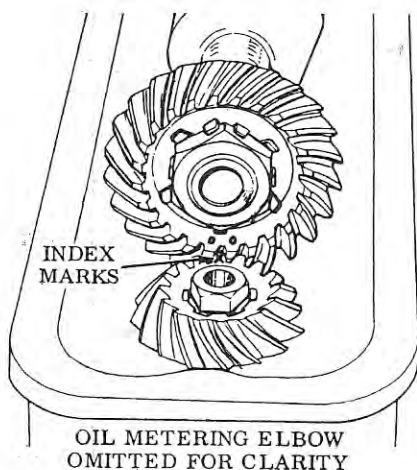

Fig. H12—To time the camshaft to the tower shaft, make sure the "X" mark on tower shaft gear is aligned between the two "O" marks on camshaft gear as shown.
The camshaft bearings are numbered from 1 to 5, starting with the lower bearing. To remove the camshaft, turn the flywheel until No. 1 (Lower) cylinder is at Top Center on the compression stroke and the camshaft timing marks are aligned as shown in Fig. H12. With timing marks aligned, loosen the bearing retaining screws evenly, one turn at a time, in the following order:
elbow (26) in camshaft and tower shaft adjuster (27). Make sure the timing marks are aligned as shown in Fig. H12. The cam cover mounting studs should be installed in spark plug side of No. 4 camshaft bearing and the manifold side of No. 1 bearing. Make sure the camshaft thrust spacer (22) and retainer (21) are in place when No. 1 bearing is installed. Tighten all bearing retaining screws finger tight, making sure the bearings are properly seated; then, tighten the retaining screws equally, a little at a time, in the following order: 1-4-3-2-5. After all bearings are seated, tighten all bearing screws to a torque of 100 inch-pounds. Recheck all valve clearances and timing marks before installing camshaft cover.